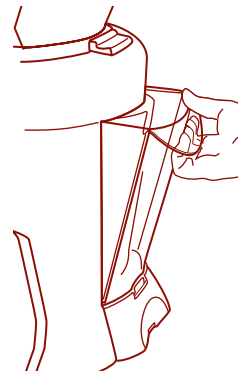

Figure 7
- To remove the Ice Melt Reservoir hold the unit still and pull straight out on the handle. *Figure 7*